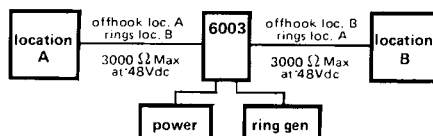

figure 2. 6003 interconnects two lines or trunks
2.01 The 6003 and 6004 2Wire Automatic Ring-down modules may be applied to 2wire, metallic facilities to provide bi-directional automatic ringdown service. The 6003 is employed on metallic facilities connecting two stations or two trunks (figure 2).